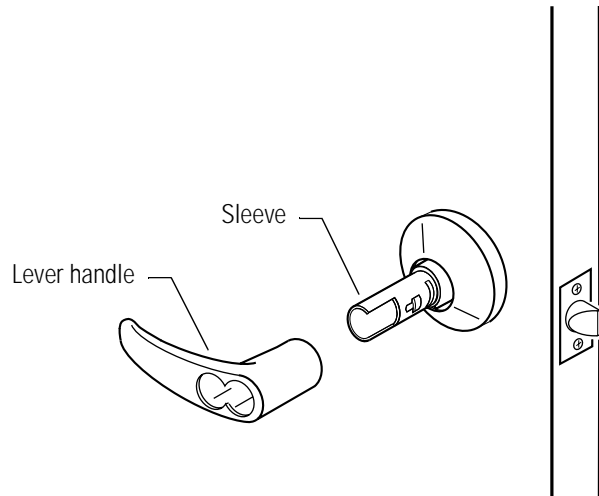

**Figure 3.3** Removing the plain lever or button lever
1. Insert the protrusion on the spanner wrench into the hole on the shaft of the lever, as shown in Figure 3.3. Slide the lever off the sleeve.